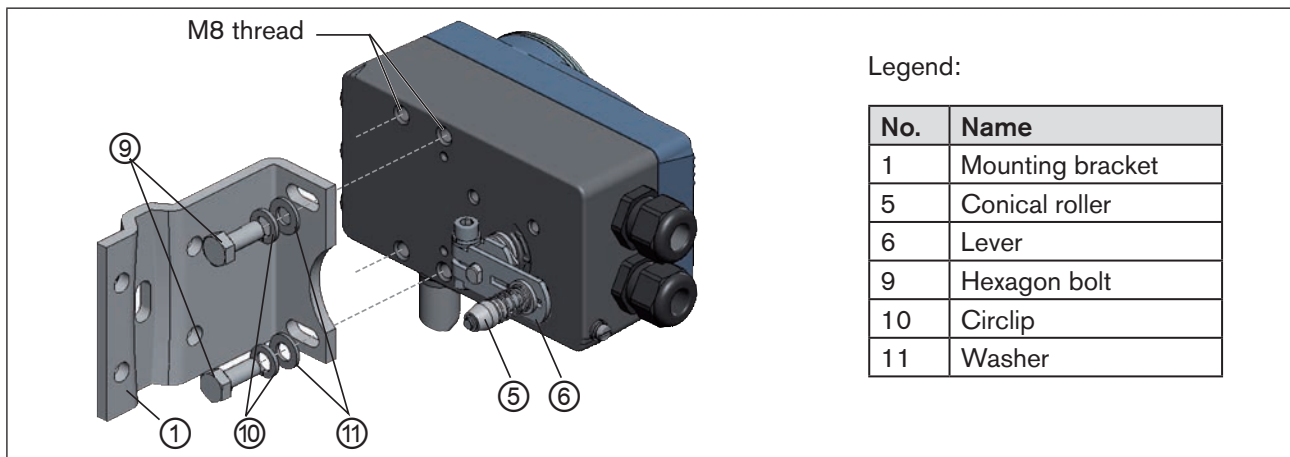

Figure 15: Attaching mounting bracket
→ Attach mounting bracket ① to the back of the Type 8792/8793 with hexagon bolts ⑨, circlip ⑩ and washers ⑪ (see "Figure 15").
The conical roller ⑤ on the lever ⑥ of the position sensor must be able to move freely in the hoop (refer "Figure 15") along the entire stroke range of the actuator.